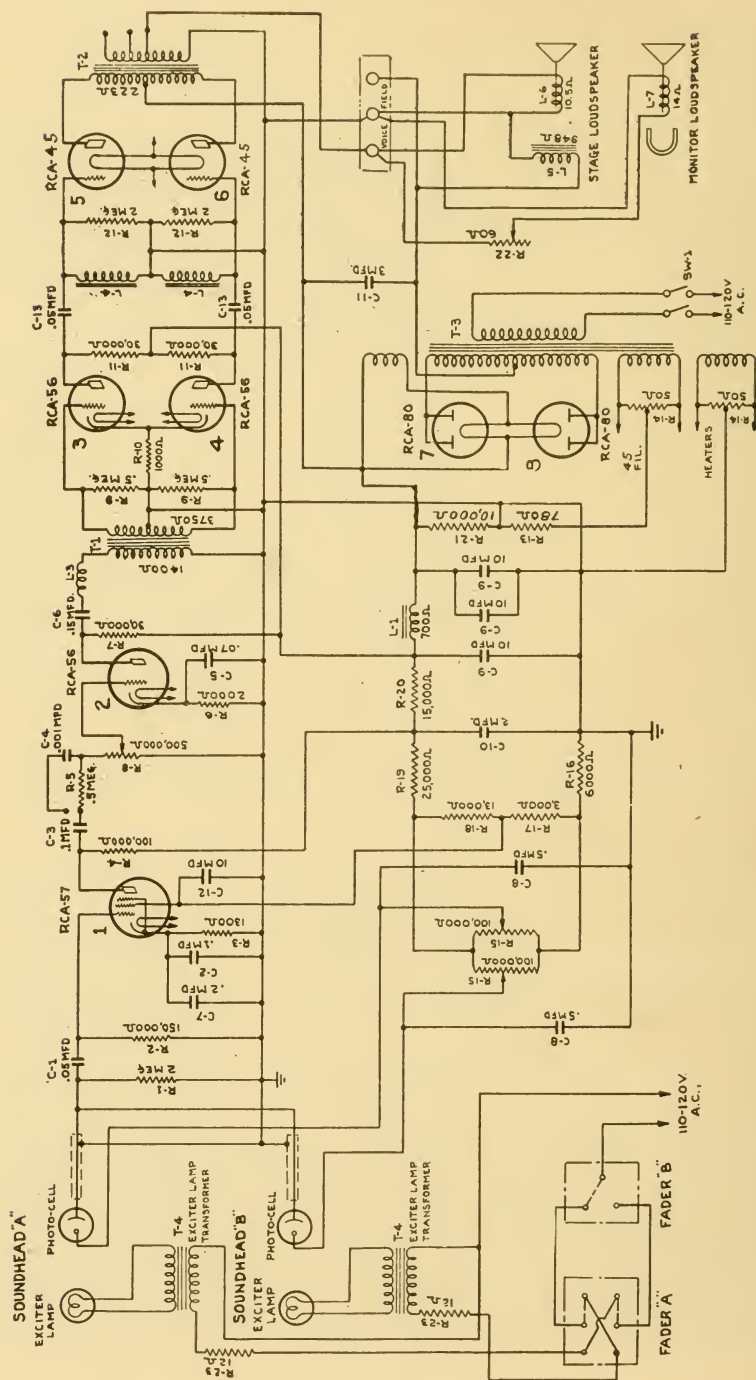
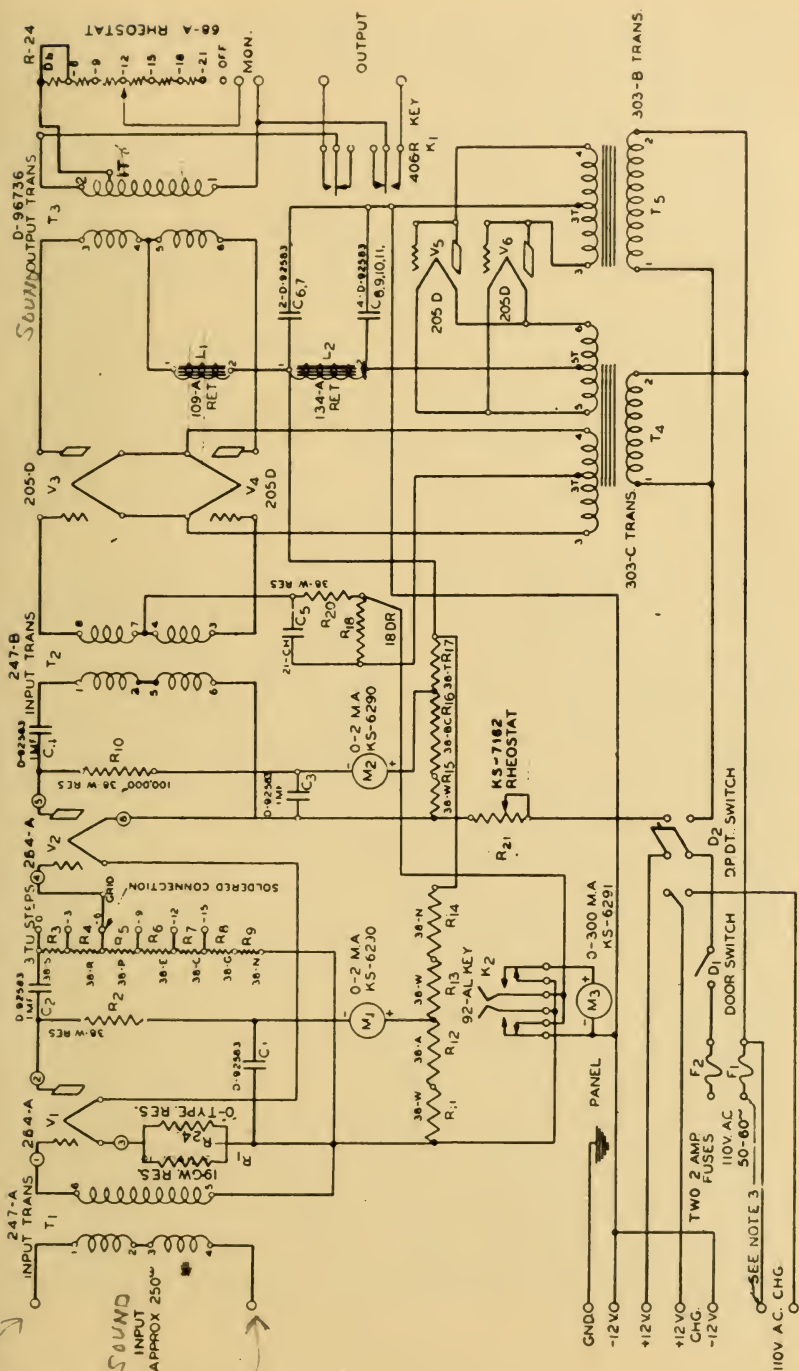
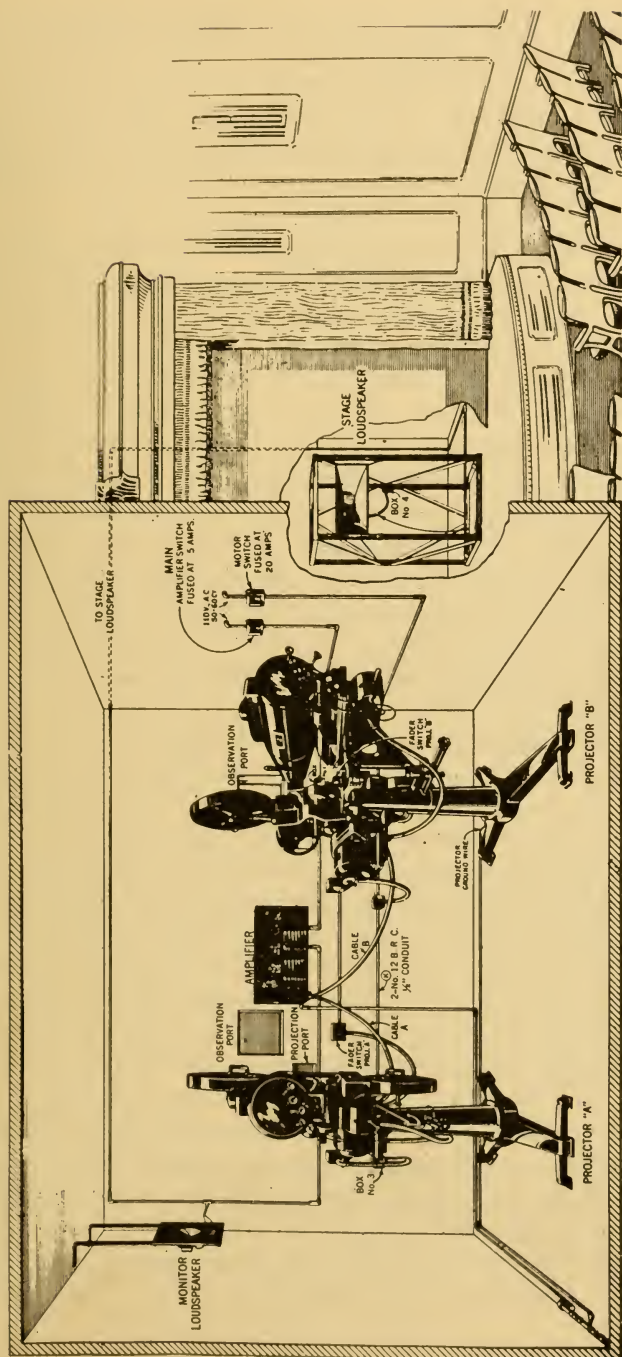

FIGURE 139
FIGURE 140.
FIG. 141.—Projection room and stage installation. The amplifier seen between the projectors is the same diagrammed in FIG. 139.
However, in the 57-type pentode tube shown in Figure 139, it is made at the socket terminals.
All of the foregoing can be illustrated, and any details that may still seem dubious will perhaps be made clearer, by detailed analysis of the circuits of actual theatre amplifiers. Figures 139 and 140 have been chosen for this purpose. They represent two amplifiers that are perhaps the most widely used at the present time.
### CIRCUITS OF FIGURE 139
At the bottom of Figure 139, near the right-hand corner, are two arrowheads that show connection to a 110-volt power line. Above them is the power switch of the amplifier, through which the 110-volt circuit runs to the primary or right-hand coil of the power transformer, T-3.
#### GRID BIAS RESISTORS IN FIGURE 139
Every amplifying tube of Figure 139 receives control grid bias by virtue of the voltage drop across a resistor that is connected in series with its plate circuit. (Page 553.) Having traced all the plate circuits we have encountered all those resistors. They may be listed here for convenience, as follows: for the 57 tube, R-3; for the single 56 tube, R-6; for the push-pull 56 tubes, R-10. These resistors are shown close to their respective cathodes. The bias resistor for the 45's is shown just left of the lower rectifying tube. It is R-13.
The extreme left-hand portion of Figure 139 does not, properly, deal with the amplifier at all, but represents the exciter lamp power supply. The lamps are lit with a. c., the frequency characteristics of the amplifier being such that the 120-cycle hum created is filtered out in the coupling circuits and does not reach the speaker. T-4 are step-down transformers developing 10 volts for the lamp filaments. Fader "A" is a double-pole double-throw switch and Fader "B" is a single-pole double-throw switch. One is mounted to the right of each projector in convenient operating position. (See Figure 141.) No
Figure 139 illustrates many of the fundamental principles of amplifier circuits that were discussed in the preceding parts of this section on Amplifier Theory and Wiring, and at the same time shows how designing engineers vary and combine the application of those principles. The use of coil L-4 in Figure 139 represents one such variation. Condensers C-7 and C-2 represent another. The reader must always expect to find some novelty in any amplifier diagram he may have occasion to trace. Some will be found in Figure 140.
#### THE CIRCUITS OF FIGURE 140
#### D. C. FILAMENT CIRCUIT OF FIGURE 140
#### PLATE SUPPLY CIRCUITS OF FIGURE 140
The two tubes, V-5 and V-6, therefore constitute a common full-wave rectifier circuit, identical in principle and action with those we have already seen in Figure 139
#### SPEECH CIRCUITS OF FIGURE 140
Speech input to the amplifier of Figure 140 is through the transformer at the extreme upper left of the drawing, T-1. The alternating speech voltage developed in the secondary of that transformer is connected directly across the grid and filament of the left-hand amplifying tube, V-1. The plate of V-1 is condenser-coupled to the grid of V-2. C-2 is the coupling condenser. C-1 is the plate circuit by-pass condenser (Figure 129) for V-1. Resistors R-3 to R-9 serve as volume control, precisely as does Resistor R-8 in Figure 139. (See also Figure 133.) The plate speech circuit of V-2 is coupled to the
primary of transformer T-2 through Condenser C-4, while Condenser C-3 is the plate circuit by-pass condenser. The use of Condenser C-4 keeps the plate d. c. for V-2 out of the windings of T-2 primary. The reader should note the similarity between the plate circuit of V-2, in the drawing now under consideration, and the plate circuit of the single RCA-56, in Figure 139.
The reader will note that in spite of innumerable surface dissimilarities, the fundamentals of this circuit are essentially like those of Figure 139. The same identity of fundamentals will be found in any amplifier wiring whatsoever.
Some of the surface differences between this drawing and Figure 139 refer to the use of different types of tubes. There is no pentode tube in Figure 140 like the RCA-57 of Figure 139. Figure 139, again, uses heater cathodes in its smaller tubes, and has no filament battery supply. It has no meter switches like K-2 because it does not use meters. The circuits of the two volume controls are identical, yet the physical arrangements are different. The volume control in Figure 139 is operated by means of a dial on the face of the amplifier. That in Figure 140 is set with a soldered connection, operating
In Figure 140, meter M-1 will reveal loss of emitting power in tube V-1, while meter M-2 provides a similar check upon tube V-2. Tubes V-3 and V-4 present a different problem. Meter M-3 (by use of switch K-2, as previously explained) reads the current through both these tubes, and if that current is low either tube may be at fault. The procedure then is to lift each of those tubes from its socket, momentarily, and watch the drop in the indication of meter M-3. The larger drop indicates the better tube, that is, the tube that was carrying nearly all the current. A slight drop indicates that the tube lifted from its socket\* at that moment was not doing much work anyway.
It is good practice to "match" push-pull tubes. A number of new tubes should be tried in the sockets of V-3 and V-4 until a pair are found that give substantially the same change in the indication of meter M-3 when either is lifted from its socket. Pairs matched in this way should be kept in the spare parts cabinet, and when a change is necessary a matched pair should be inserted, while the good tube of the discarded pair may be kept and matched up, at some convenient time, with another tube of equal emitting power. The same procedure may be followed with the paired 56's and 45's in Figure 139, if a tube-meter is available.
Rectifier tubes also lose their emitting power, and if either V-5 or V-6, of Figure 140, has deteriorated, that fact will be made evident by low reading of all three milliammeters. Full-wave rectifier tubes should also be paired, the test procedure being the same as that for push-pull amplifier tubes, namely, to lift each tube from its socket momentarily and read the result on a plate current meter. In Figure 140 M-3 will serve this purpose also.
Matching paired tubes secures the best quality of sound. In the case of rectifier tubes, using an unmatched pair may possibly endanger other equipment. The secondary of T-5 transformer, in Figure 140, might burn out
Figure 139 is typical of many modern amplifiers in that meters are not provided. Low space current may become apparent through decline of volume. A common method in such cases is to insert new tubes one at a time, until a sudden increase of volume shows that the bad tube has been replaced. This procedure, however, is neither accurate nor economical of tubes. A better way is to use a portable tube-meter. The theatre can afford to buy this instrument; it will repay its cost many times over in case of trouble; and without trouble will repay its cost in a few years by economizing on tube life. Service engineers dealing with amplifiers that do not have built-in meters carry such instruments. If the theatre is not receiving regular service a tube-meter can be borrowed or rented at the nearest radio repair shop.
High space current is less common than the reverse condition, but more dangerous. It may cause the amplifier to overload, distorting the sound, and it endangers every part (for example, resistor R-18 in Figure 140) through which the excessive current must flow to complete its circuit. There are three general causes of high space current. One is high line voltage, which, connected across the primary of T-5 in Figure 140, or of T-3 in Figure 139, will generate excessive voltage in the secondaries of those transformers. The remedy for this condition has been mentioned. A second cause is a "gassy" tube, which must be discarded. A third is low grid bias, which is the commonest cause in amplifiers that use "C" batteries.
(30) Dirt is not the only cause of bad contact in an amplifier. Another is loose spring tension. Spring tension is used at a number of points. The contacts of switch K-2 in Figure 140, for example, are held in position by the tension of the switch prongs. The sliding contacts of rheostats and volume controls (Figure 125, for example, as well as R-8 in Figure 139 and R-21 in Figure 140) are matters of tension. And it is spring tension that makes every contact of every tube with its socket.
Contact tension may be destroyed by dirt, which has temporarily held the spring out of its correct position, or by use, or by the heating of nearby parts. It must always be watched, and restored as necessary. Restoration of spring tension is unfortunately not easy. In the case of K-2 of Figure 140 a special tool is needed to do
(33) Hum at the frequency of the power line can be caused by three conditions. One is a defective rectifier tube. If either V-5 or V-6 in Figure 140 should burn out, or if the emission in either tube should so far decline that
An uncommon but occasional cause of hum is a temporary defect in the power transformer, T-3 of Figure 139, or T-4 and T-5, especially T-5, in Figure 140. The iron core of a transformer is not a solid piece of iron, but is composed of a great many thin iron plates, called laminations. The laminations are held rigidly together by nuts and bolts, or by rivets, and if a bolt or a rivet should loosen, will vibrate in resonance with the frequency of the circuit. Such vibration increases the ripple in the rectifier output to a point where the filter cannot remove all of it. Tightening the holding bolts or the rivets will remove hum arising from this cause.
(34) It was explained on Page 545 that an attempt to force excessive volume from a single tube might cause feed-back between the plate and grid circuits, resulting in distortion and possibly in motor-boating or howling. Feed-back between different tubes that have the same power supply is also possible, and without reference to excessive volume. If, for example, the plate a. c. of V-3 and V-4, in Figure 140, should in some manner find its way back to the plate circuit of V-1, Figure 140 would no longer act as an amplifier but as a
(35) If sound should be lost and the amplifier be suspected, the first step is to determine whether the trouble is actually within the amplifier or not. Thus, in the case of Figure 140, headphones (high resistance phones only) might be connected across the primary of T-1, to be sure the amplifier is being supplied with sound current. If such is the case, the phones are next connected across the secondary of T-3, to determine whether sound current is leaving the amplifier. If sound is heard in the headphones during the first test, but not during the second, there is no question but that the amplifier is at fault.
The output test for Figure 139 is the same as for Figure 140, namely, headphones across the secondary of the output transformer (T-2) to make sure that the loss